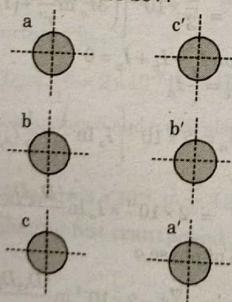

Fig. 4.8.1.
- The conductor arrangement of the double circuit is shown in Fig. 4.8.1. Let the radius of each conductor be  $r$ .